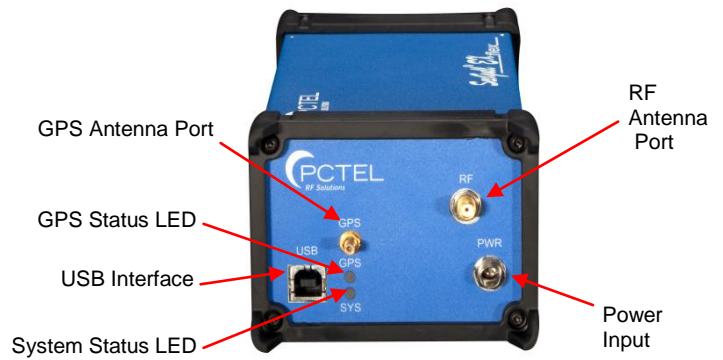

Figure 2 - Front View of SeeGull EXflex Scanning Receiver Showing Connections
Upon receipt of the scanning receiver, inspect the shipping container and verify that the contents are complete and match the packing list. The EXflex receiver should look similar to the picture in *Figure 2*. If the contents are incomplete or the SeeGull EXflex Scanning Receiver appears damaged, please call the Technical Support line at (240) 460-8833.